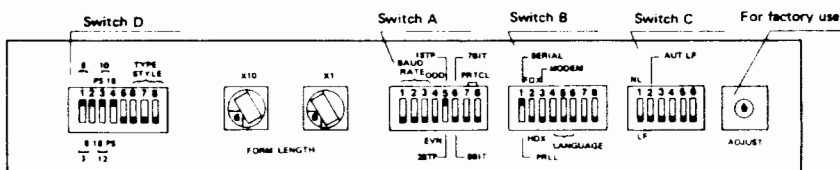

Figure 1-6 Control Panel
- 13) Control panel - used to set default parameters in the printer. The panel is shown in Figure 1-6 and explained in Section 3.